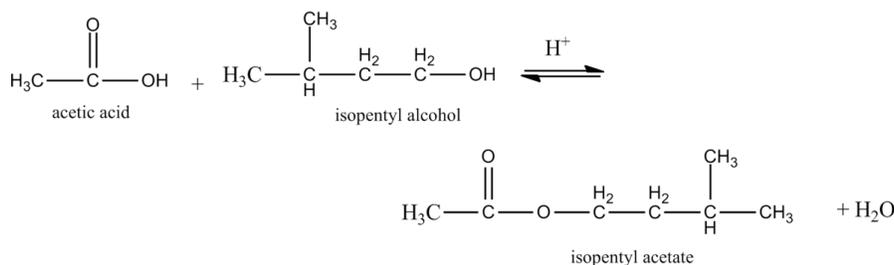

Figure 1
In this experiment, you will prepare isopentyl acetate (the scent in banana oil) by a Fischer esterification of acetic acid and isopentyl alcohol, as shown in Figure 1. The reaction will be catalyzed by sulfuric acid. Following the reaction, isolation of the pure liquid ester will be obtained through distillation.
- b. Attach a water condenser column for reflux. Attach the tubing to the condenser column so that the water enters the condenser column at the lower nipple and exits the upper nipple connector as shown in Figure 1.